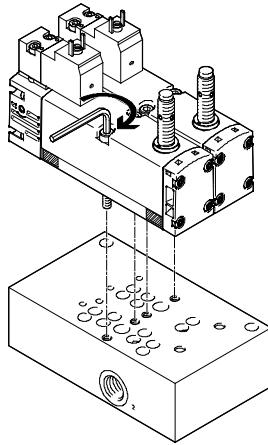

Fig. 10 Mounting the solenoid valves on the control block
7. Place the solenoid valve on the control block (→ Fig. 10) and tighten the 2 mounting screws with an Allen key (A/F 3) (permissible torque: 2 Nm ± 10 %).